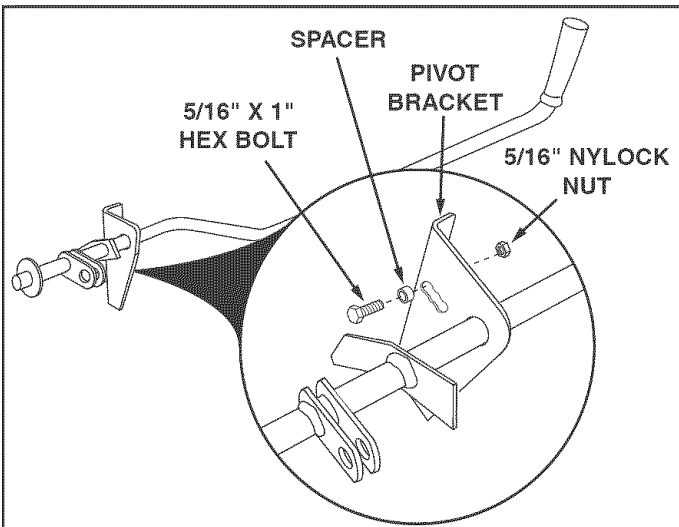

FIGURE 1
- (1) 15/16" Wrenches or Adjustable Wrenches
- Assemble a 5/16" x 1" hex bolt, a spacer and a 5/16" nylock nut to the three position slot in the R.H. pivot bracket on the left lever assembly. Use the position closest to the bend in the bracket (lowest implement depth setting). See figure 1.
- b. For closer adjustment, move the hex bolt assembled in figure 1 to a position in the three position slot that gives better levelling.